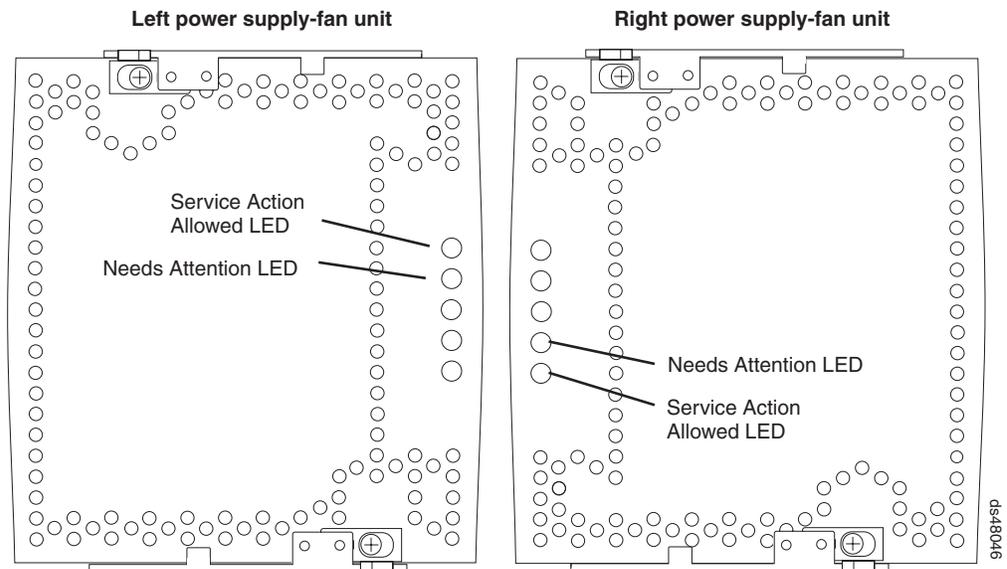

Figure 79. Power supply-fan LEDs
4. Locate the failed power supply-fan by checking that the power supply-fan Needs Attention LED that is turned on. (Figure 79 on page 124 shows the LEDs on the power supply-fan.)
5. Is the Service Action Allowed status LED turned on? (Figure 79 shows the location of the Service Action Allowed status LED on the power supply-fan.)